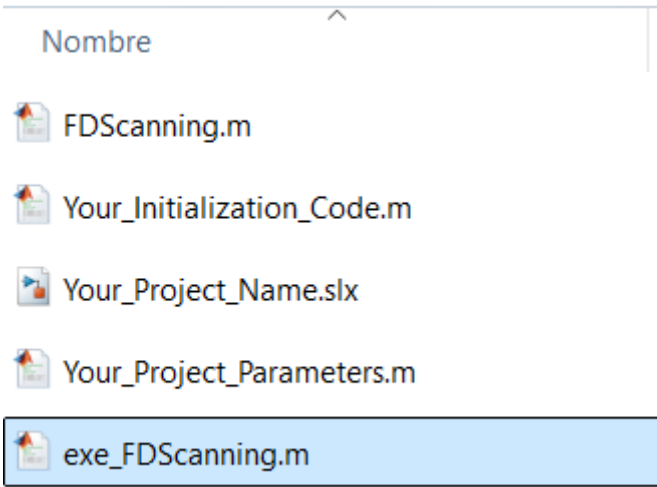

Figure 3. Copying the file *exe_FDScanning.m* to your working directory.
Also copy the *exe_FDScanning.m* file into the same working directory mentioned earlier (see Figure 3). Once the file is in place, open it to define the scanning and system identification parameters.
- `program`: This is where you insert the name of the `.slx` file containing the EMT model of the system to be analyzed. For example, in the application shown in Figure 3, the file name would be `"Test_Network.slx"`.
If your project requires a **power flow** or other pre-simulation calculation to obtain necessary variables, include your script: *Your_Initialization_Code.m*. This script must be placed in the **same folder** as the rest of your project files (refer to **Figure 3** for the file placement).